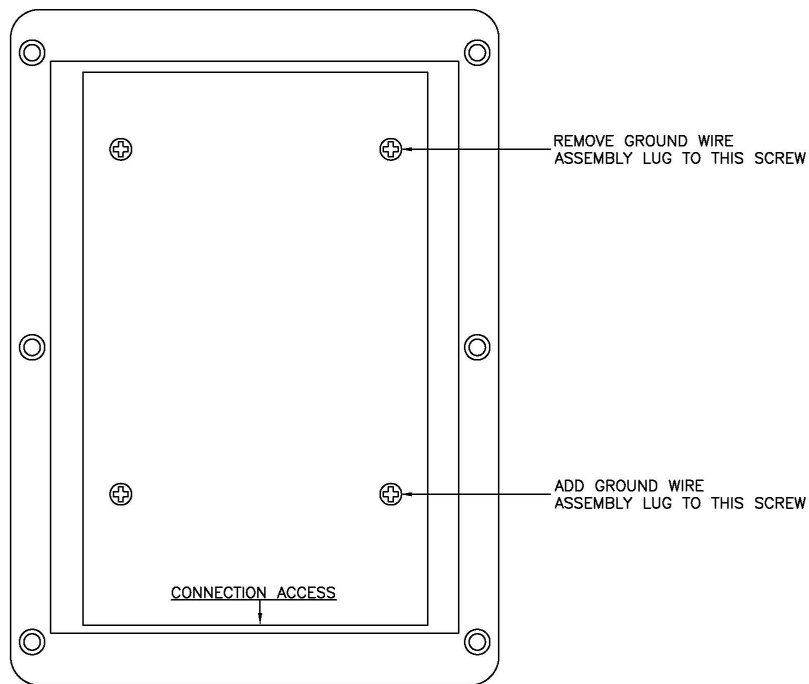

FIGURE 1 . GROUND WIRE ASSEMBLY
1. On the phone about to be installed, loosen the ground wire assembly from the Phillips screw on the back of the phone. Screw only has to be loose enough for spade lug terminal to slide away. See Figure 1 for location.
3. Loose lower screw at location shown in Figure 1. Slide spade lug attached to ground wire assembly under screw. Re-tighten screw until snug. Take care not to overtighten the screw.